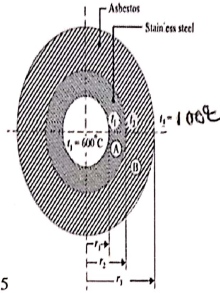

Fig. 5
- (b) A thick walled tube of stainless steel (18% Cr, 8% Ni, K=19 W/m°C) with 0.02 m inner diameter and 0.04 m outer diameter is covered with a 0.03 m layer of asbestos insulation (K=0.2 W/m°C) as shown in Figure 5. If the inside wall temperature of the pipes is maintained at 600 °C and the outside insulation is 100°C. Calculate the heat loss per meter of length. Also calculate the tube interface temperature.